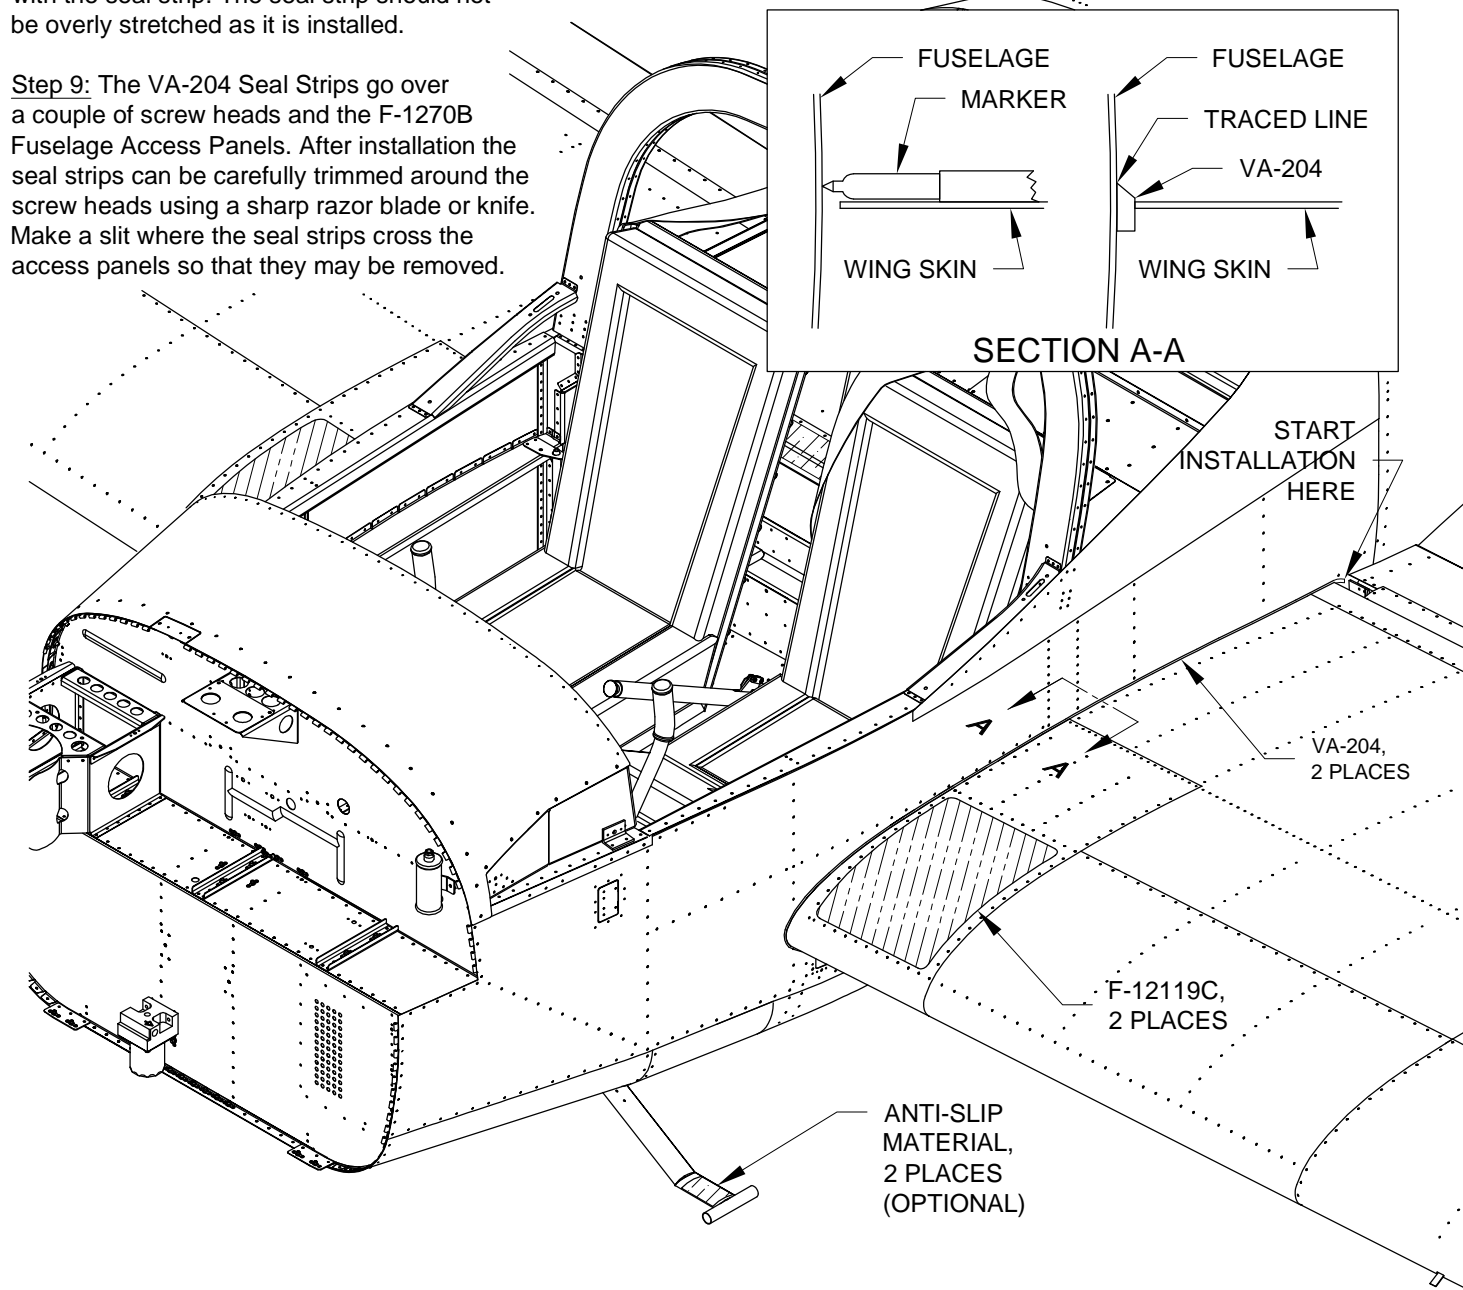

FIGURE 3: WING WALK AND STEPS
Step 6: Apply anti-slip material (approximately 2 inches X 3 inches is needed) to the steps as shown in Figure 3.
Step 7: With the wings installed, take a ultra-fine felt tip marker and, holding the pen body flat against the wing skin, outline each wing, top and bottom, on the side of the fuselage. See Figure 3 Section A-A. To avoid a bumpy outline on the fuselage, mark only between where the rivets on the wing are. This should produce an outline approximately 1/4 inch outside of where the wing meets the fuselage. Make a mark at the top and bottom skins trailing edges to show where the seal starts and ends. Remove the wings. Step 8: Align the beveled edge of the VA-204 Seal Strip with the outline traced on the side of the fuselage so that it just covers the line as shown in Figure 3 Section A-A. Care should be taken to make a smooth curve with the seal strip. The seal strip should not be overly stretched as it is installed.